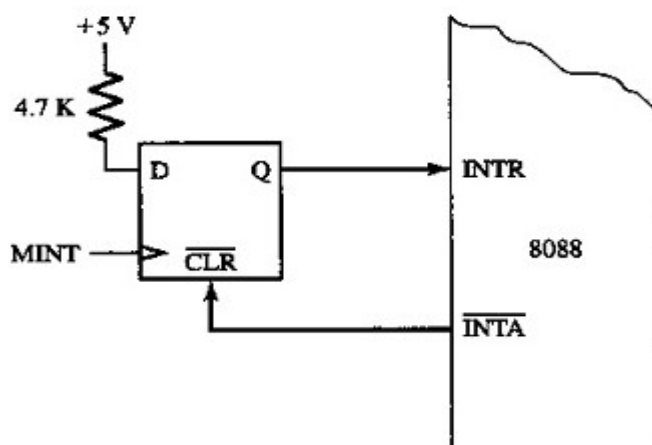

FIGURE 1.6 INTA conditioning circuitry
Up to now we have only discussed the basics of this hardware interrupt signal. Let us take a closer look. No interrupt is generated by INTR unless the interrupt-enable flag (IF) is set. This can easily be accomplished with the STI (set interrupt-enable flag) instruction. INTR must remain high until sampled by the processor, unlike NMI, which is a rising-edge triggered input. It is therefore necessary when using INTR to allow it to remain high only until an interrupt acknowledge cycle begins. For 8086/8088 systems, the 8259A programmable interrupt controller, automatically interfaces with INTR and \overline{INTA} . If the power of this peripheral is not needed, then custom interrupt circuitry must be designed. First, we need the INTR connection. The circuit shown in Figure 1.6 uses a flip-flop to condition the INTR input. A D-type flip-flop is used to convert the high-level requirement of INTR into an edge-sensitive request. A rising edge on MINT (maskable interrupt) will clock a 1 through the flip-flop, placing a high level on INTR. When the 8086/8088 recognizes INTR and begins its interrupt acknowledge cycle, \overline{INTA} will go low. This will clear the flip-flop and remove the INTR request. MINT must go low and back high again for another interrupt to be recognized.